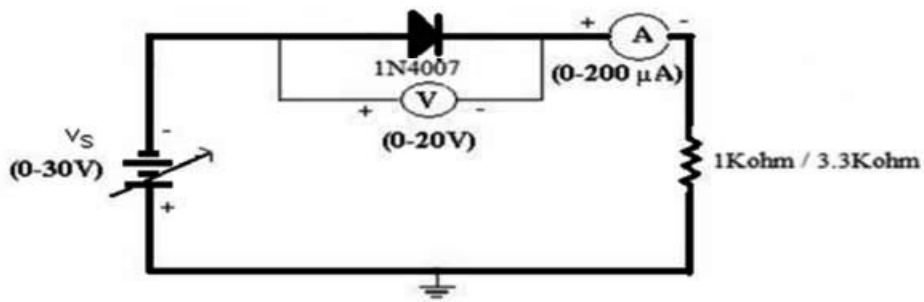

Figure 3: Reverse bias condition
1. Connect the silicon diode in reverse bias as shown in Figure 3.